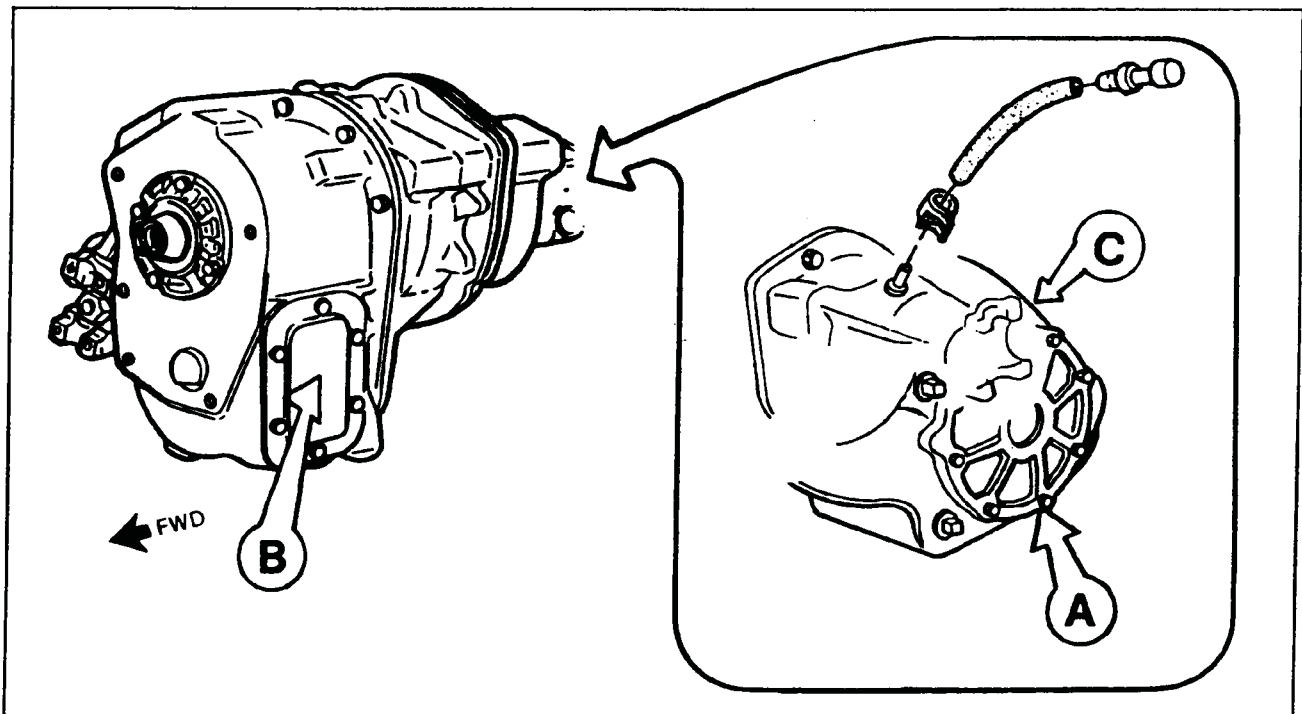

Fig. D-5-Model 203 Transfer Case, Oil Change Location View
3. Remove the lowest bolt from the front output shaft rear bearing retainer, and allow the lubricant to drain. See Item A in Figure D-5.